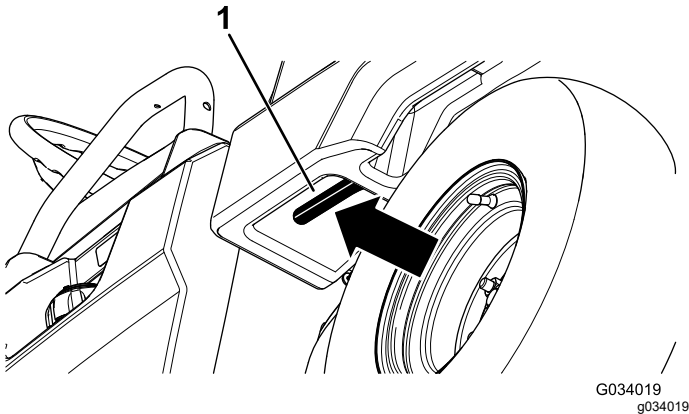

Figure 7
2. Pull on the lever on the left, inside of the cargo bed toward you and lift the cargo bed up (Figure 7).